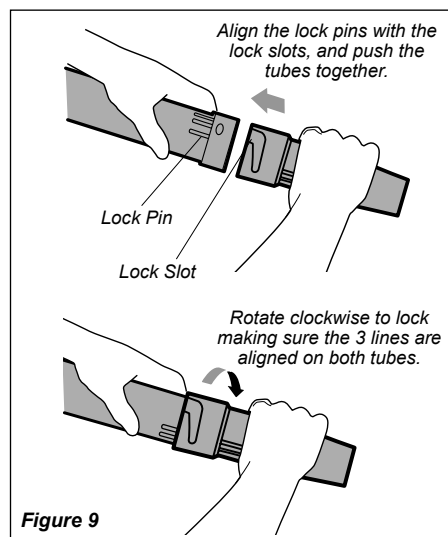

Figure 9
9. Grasp the straight tube, and push the straight tube over the swivel tube locking pins securing the static wire. See Figure 9.
10. Lock the straight tube to the swivel tube by rotating the straight tube noting the alignment marks. See Figure 9.
11. Grasp the nozzle, and push the nozzle over the straight tube locking pins. See Figure 9.
12. Lock the nozzle to the straight tube by rotating the nozzle noting the alignment marks. See Figure 9.